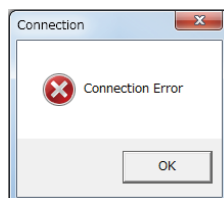

Figure 4.1b. Connection error message.
- >> If the connection has failed, an error message box appears on the screen (Figure 4.1b).